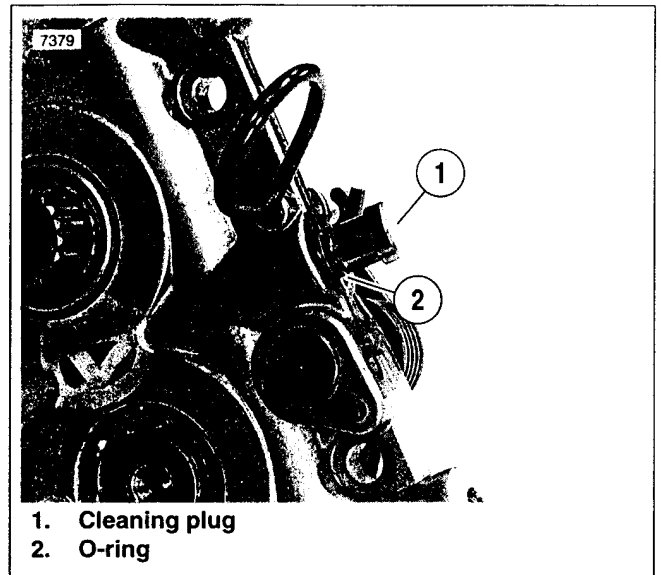

Figure 3-148. Remove Cleaning Plug
- a. See Figure 3-148. Using a small screwdriver, carefully pry cleaning plug (1) from top of cam support plate.